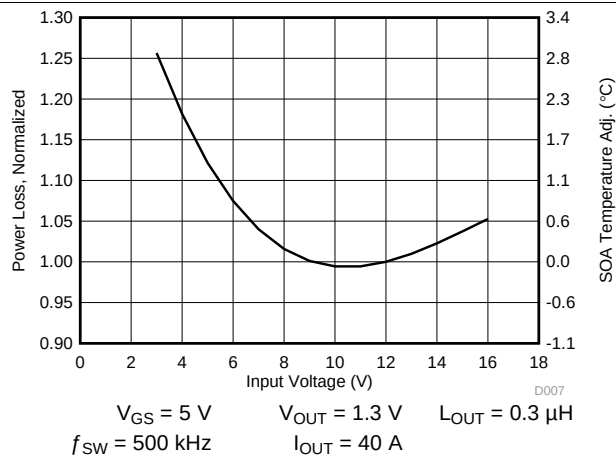

图 5. Normalized Power Loss vs Input Voltage
- Normalized power loss for input voltage ≈ 1.12 (图 5)
- SOA adjustment for input voltage $\approx 1.37^\circ\text{C}$ (图 5)